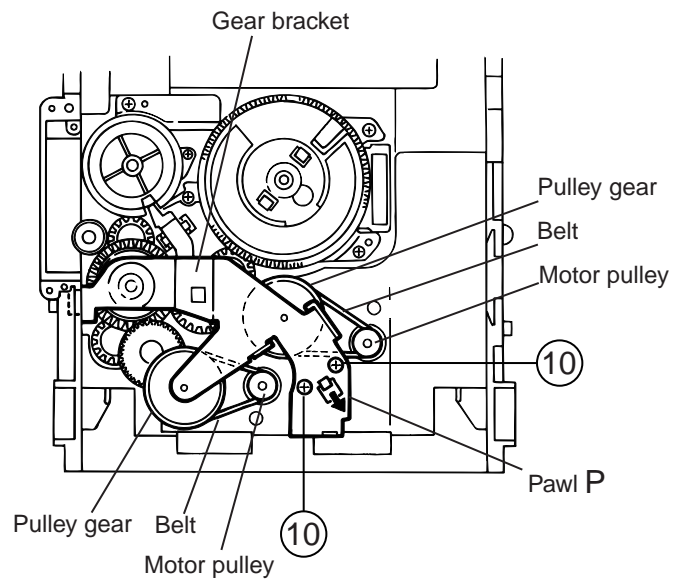

Fig.18
4. While turning the cam gear L, align the pawl "O" position of the select lever to the notch position(Fig.18) on the cam gear L.
5. Remove the four screws 9 retaining the cam unit(cam gear L and cams R1/R2 assembly)(See Fig.18).
### ■Removing the actuator motor and belt (See Fig.18~21)